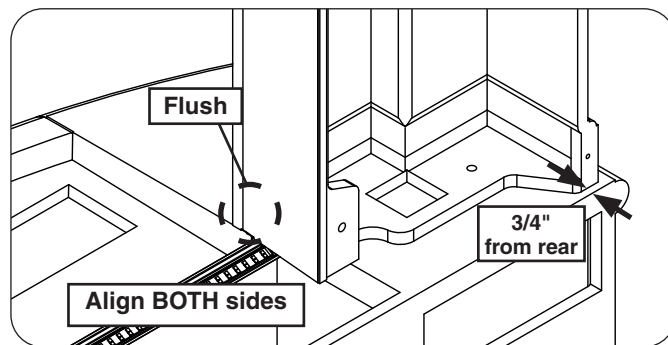

Fig. 25-1 Align top over hearth
- The rear of the top piece must be $\frac{3}{4}$ " from the rear edge of the hearth (see Fig. 25-1).
- The interior of the top piece must be flush with the hearth (see Fig. 25-1).